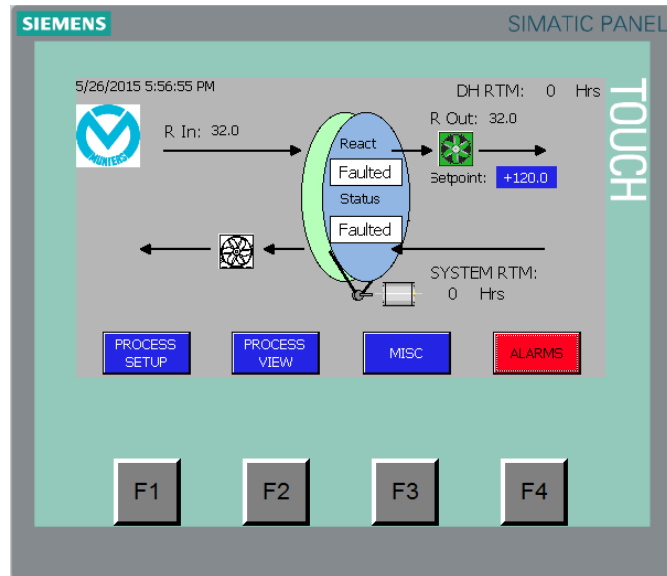

Figure 3-12
1. If the unit detects a fault condition, the ALARMS button on the display will blink red (See Figure 3-12) and the Fault Light on the control panel will light. For a warning, the ALARMS button on the display will blink yellow and the Warning Light on the control panel will light.